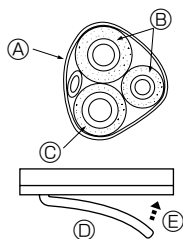

Fig. 5-5
- Route the drain hose diagonally below the connecting pipes. (Fig. 5-5)